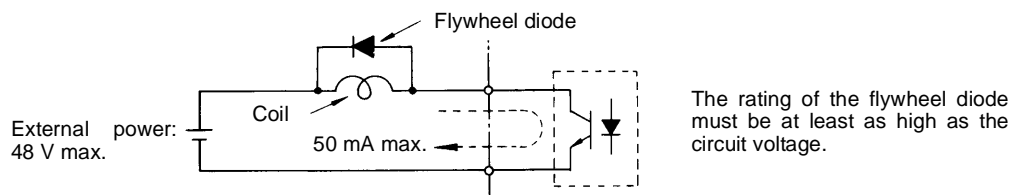

Fig 2.24 Flywheel Diode Connection
* 2. When driving a reactive load, such as a relay coil, always insert a flywheel diode as shown in Fig 2.24.